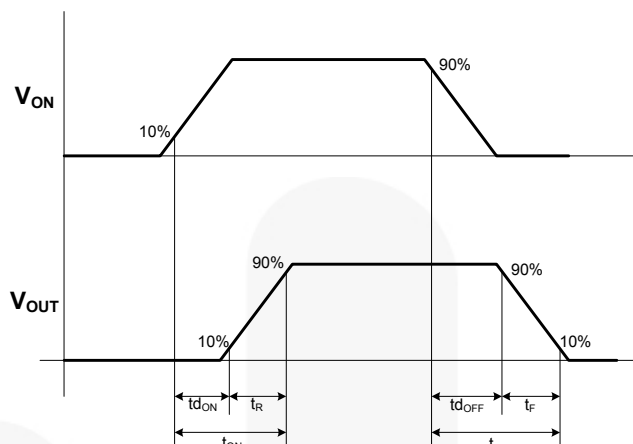

Figure 5. Timing Diagram
7. $t_{DON}/t_{DOFF}/t_R/t_F$ are defined in Figure 5 below.